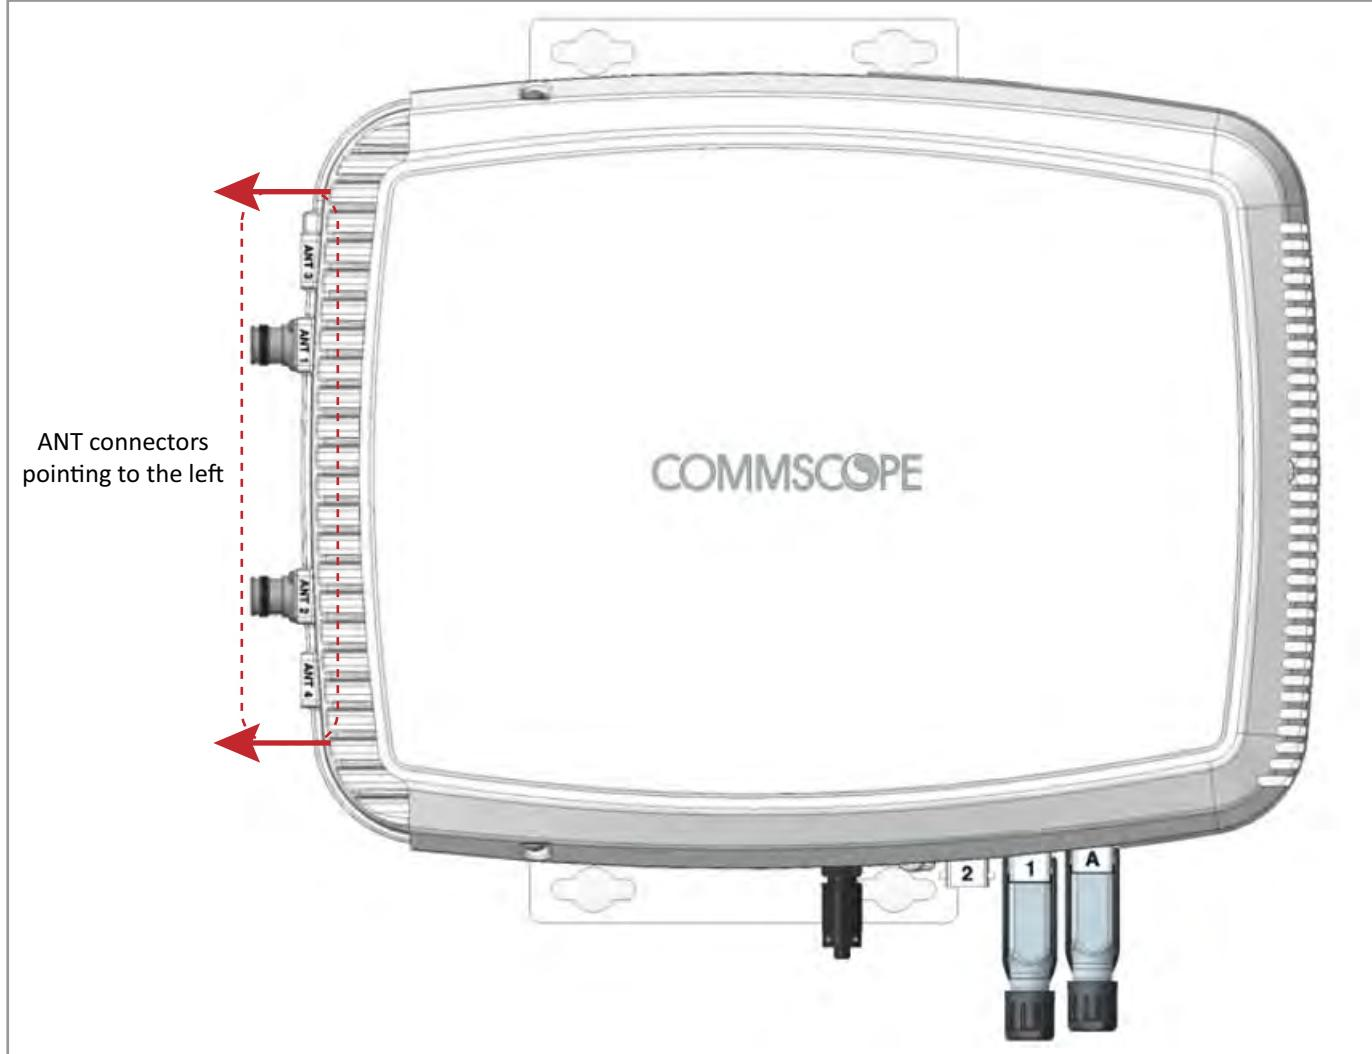

Figure 10. Mounting Orientation for a CAP L with the Optional Fan Kit (Flat Mounting Bracket Shown)
- **Wall Mount Orientation for a CAP L with a Fan Kit**—To allow for optimal access to the CAP L cables, it is recommended that a Fiber CAP L with the Fan Kit option be mounted with the ANT ports are pointing to the left; see Figure 10.